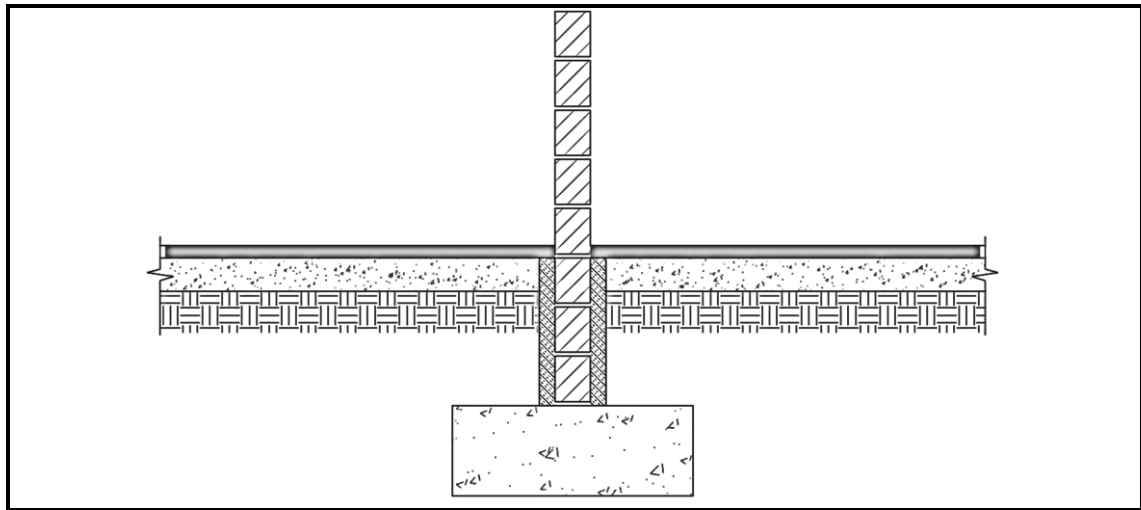

FIGURE 5.1
5.1 Answer the following questions with regard to the wall construction in FIGURE 5.1.